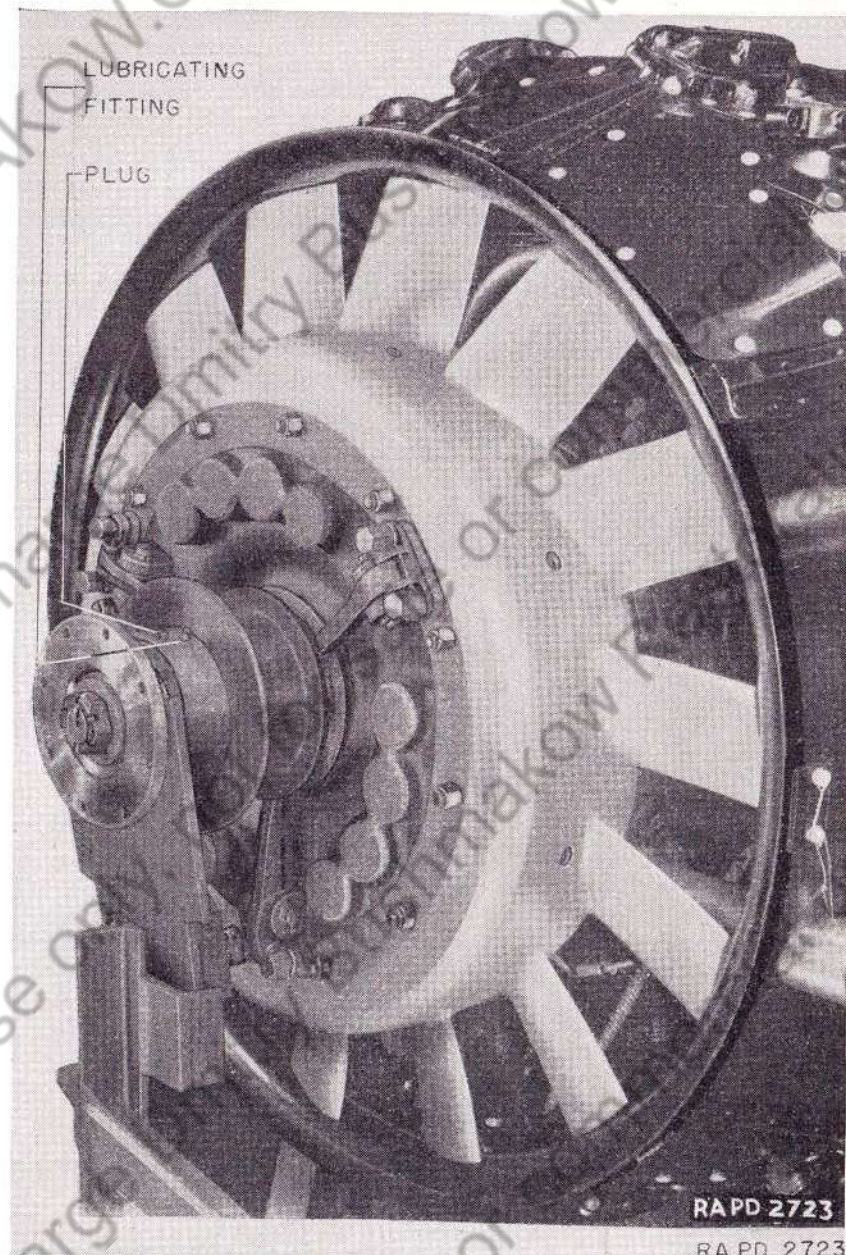
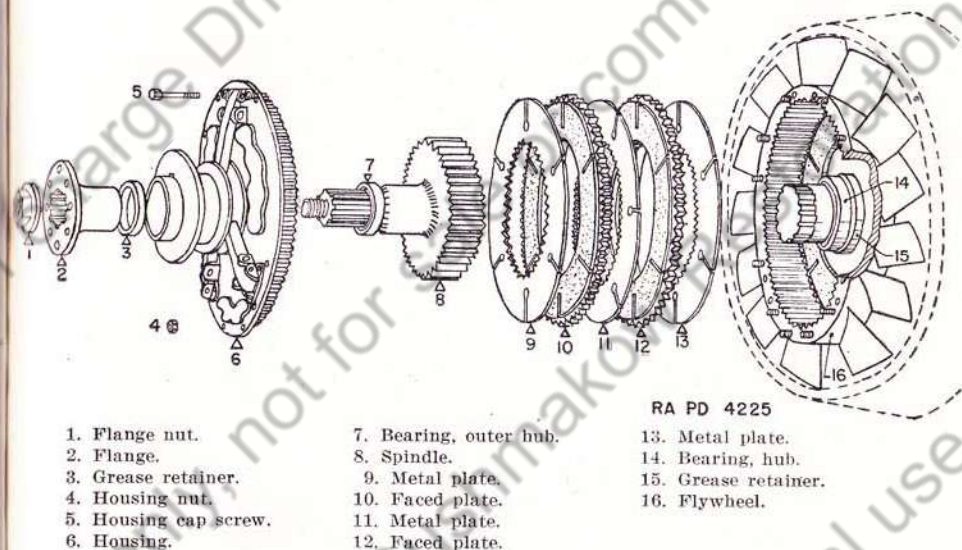

FIGURE 39.—Engine fan and clutch.
FIGURE 41.—Disassembly of clutch.
**72. Care.**—The clutch outer hub bearing (fig. 39) is greased as prescribed in figure 12. The clutch is disassembled and cleaned as shown in figure 41 at each 100-hour inspection.
III and proceed as follows (see fig. 41). Punch mark pressure plate assembly before taking apart, as each unit is carefully balanced.
**78. Clutch outer hub bearing.**—*a.* Clutch outer hub bearing is shown in figure 41. Care should be used in removing this bearing to prevent damage. After removal, it should be cleaned in dry-cleaning solvent, inspected, packed with lubricant, or replaced with a new bearing if necessary.
**79. Clutch inner hub bearing.**—*a.* The clutch inner hub bearing is shown in figure 41. The same precautions and treatment are to be followed in removing and replacing this bearing as for the clutch outer hub bearing.
**81. Reassembling clutch.**—The order of reassembly is to follow in reverse the steps used in taking the clutch apart, except that the spindle ((8), fig. 41) is replaced before the clutch plates (9 to 13, inclusive). Remember to replace screws and wire that hold plates on spindle. Care must be taken in replacing flange, as the lips of seal in sliding sleeve face out. Use shim stock or feeler gages to ease companion flange onto spindle so as not to rupture seal.